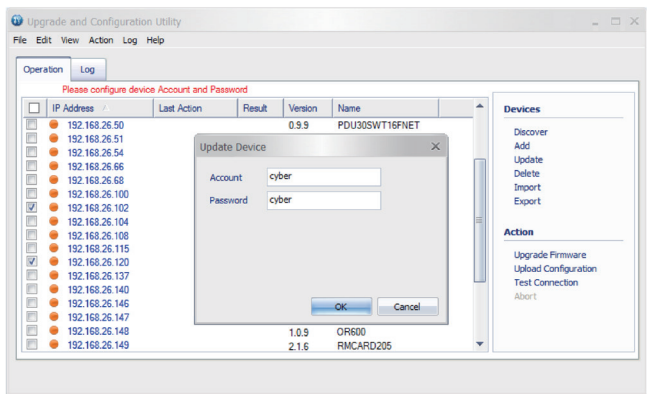

Figure 3
- 5. Make sure **Account** and **Password** are valid on selected devices (Shown in Figure 3).